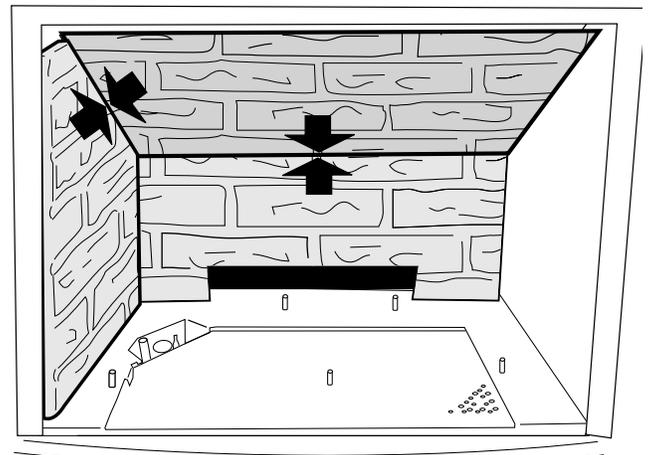

Figure 32. Install the Upper and Side Panel.
Set the Upper Panel on the Lower Panel, so that the mortar joints align with those on the adjacent panels. Hold it in place while setting the opposite Side Panel against the wall. Fig. 32.
3. Adjust the Upper Panel. You should seat the Upper Panel down and forward so that no gaps are evident at the panel joints, as indicated by the arrows in Fig. 32.